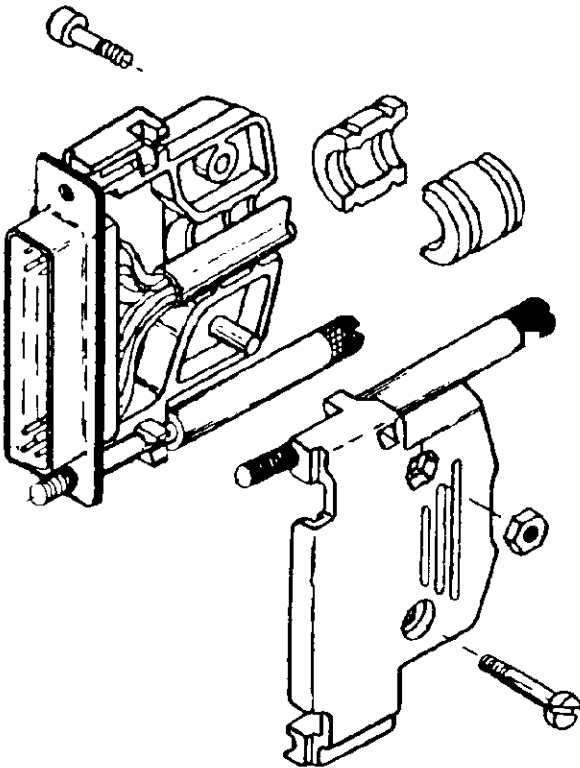

Figure 3
**3. ASSEMBLY PROCEDURE (Figures 3 and 4)**